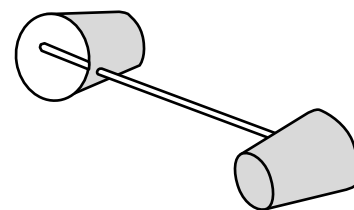

Figure 2.
3. Place and hot glue another cup at the opposite end of the straw used in step 2. Be sure that the mouths of the cups are facing in opposite directions (see Figure 2).